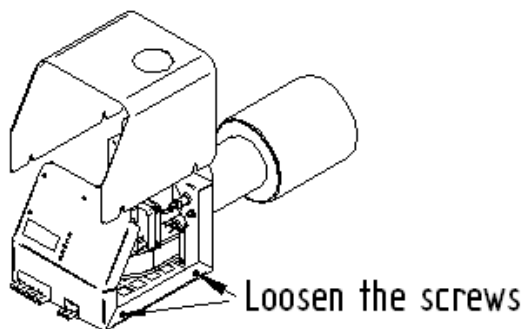

Figure 7
1. Remove the cover of the burner by loosening 4 screws of the cover. There is no need to remove the screws Figure 7 .